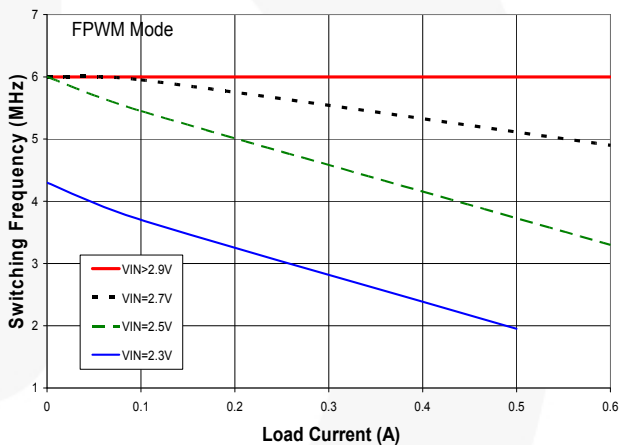
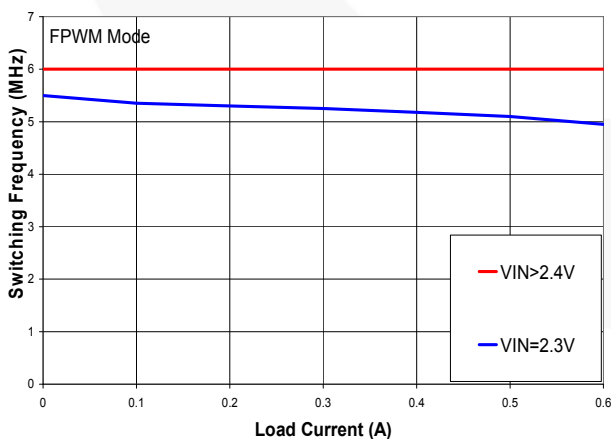

Figure 14. Effect of  $t_{OFF(MIN)}$  on Reducing Switching Frequency
Figure 15. 1.233VOUT Effect of  $t_{OFF(MIN)}$  on Reducing Switching Frequency
- Limited by the effect of  $t_{OFF}$  minimum (see Figure 14 and Figure 15 in Typical Performance Characteristics).
The switching frequency drops when the regulator cannot provide sufficient duty cycle at 6MHz to maintain regulation. This occurs when  $V_{OUT}$  is greater than or equal to 1.82V and  $V_{IN}$  is below 2.9V at high load currents (see Figure 15).